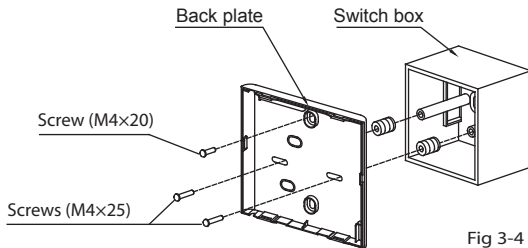

Fig 3-4
- For flush-mounting, fasten the back plate on the switch box with 2 screws (M4x25) and fasten it on the wall with 1 screw (M4x20). (Fig.3-4)